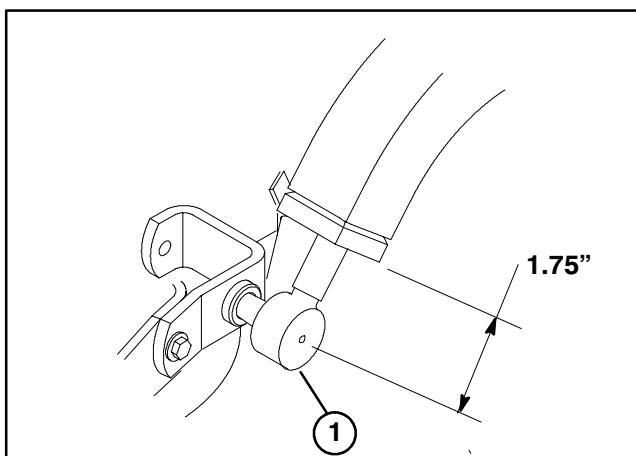
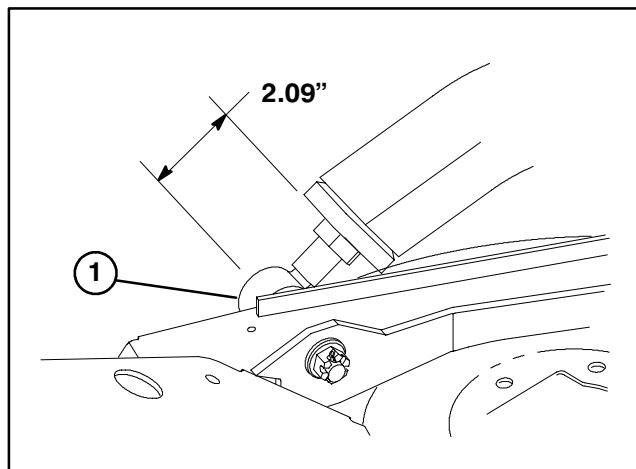

Figure 1
Figure 2
VERIFY LIFT ARM BALL JOINT ADJUSTMENT (Fig. 1 & 2)
- Lift arm ball joints have been adjusted at the factory. The proper setting of left hand ball joint is 1.75" from end of lift arm to center of tapered stud (Fig. 1). The proper setting of right hand ball joint is 2.09" from end of lift arm to center of tapered stud (Fig. 2). These distances can be adjusted if deck alignment to traction unit is off or if the deck rubs against traction tires.